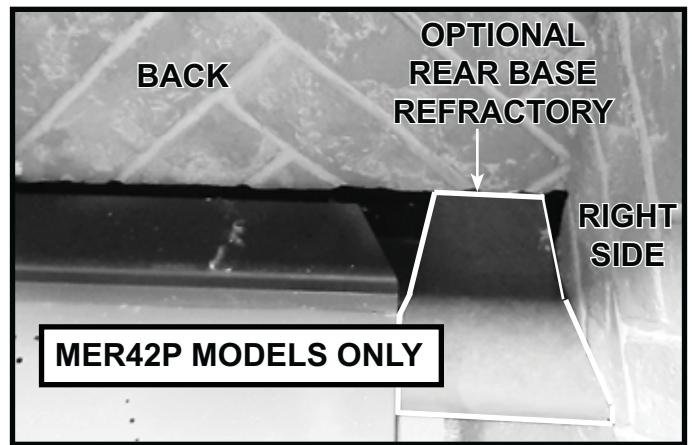

Figure 11.7 MER42P Models Only: Optional Rear Base Refractory Piece Installed (Right Side Shown)
- MER42P Models Only:** Place the optional rear base refractory pieces on the left and right sides in the rear of the firebox. Push back and toward the side of the firebox as shown in Figure 11.7. The base refractory piece should contact the side and back refractory panel.